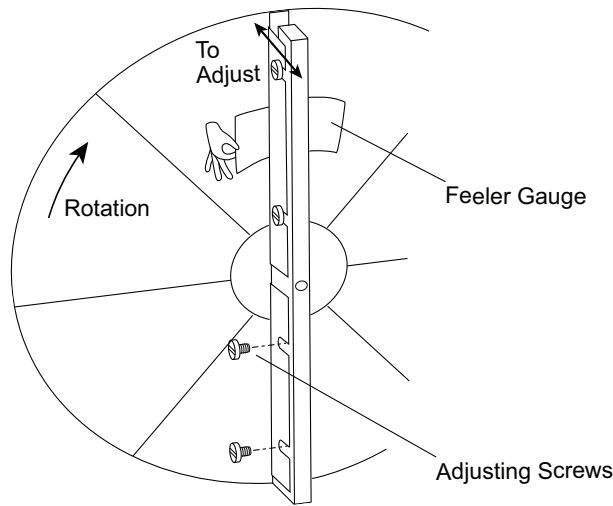

Fig. 48 — Diameter Seal Adjustment
1. Loosen diameter seal adjusting screws and back seals away from the wheel surface. See Fig. 48.